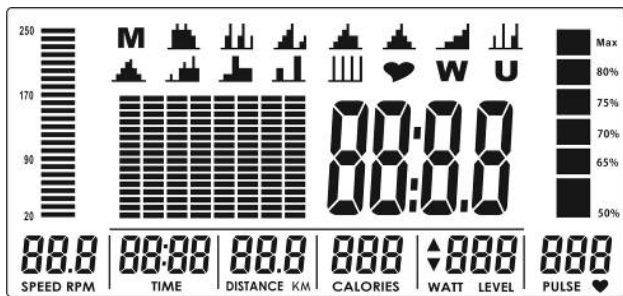

Figure 1
The console turns on and displays all segments on the LCD screen for two seconds (fig. 1).
1. Select the manual programme (M) and confirm the selection with the MODE button.
2. Set the resistance with the encoder and confirm with the MODE button (fig. 1).